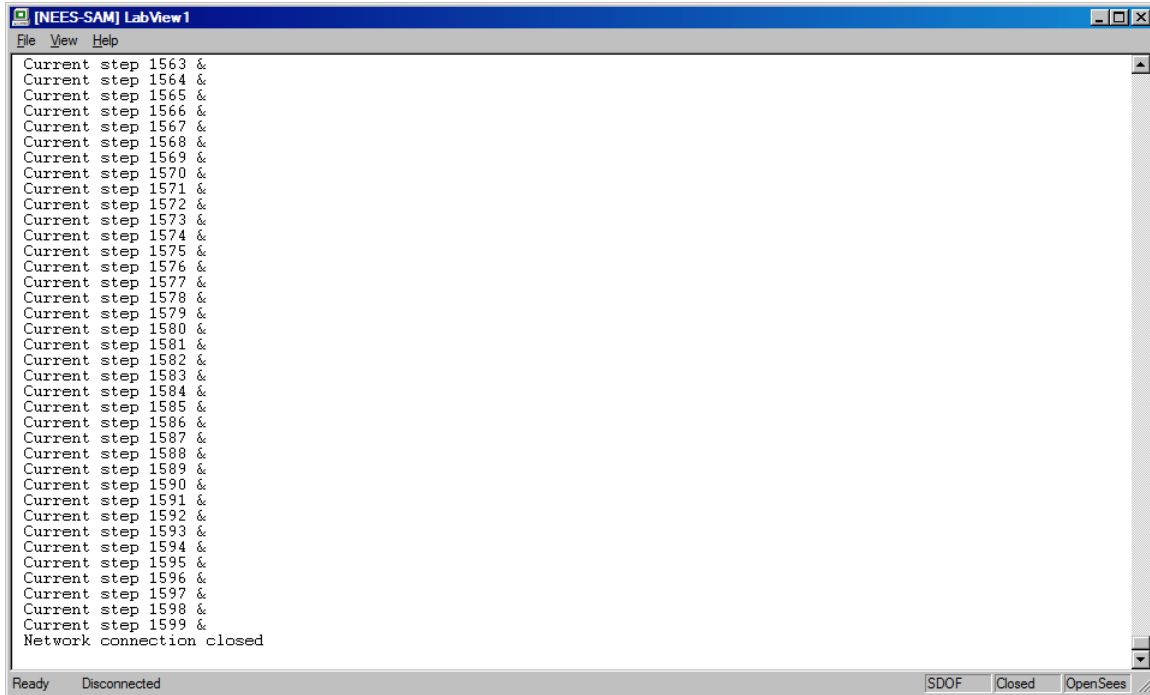

Figure 13: NEES-SAM Window for Local Test after Simulation.
- After OpenSees starts the simulation, the step numbers will also scroll down the NEES-SAM window until the simulation time step reaches 1599. Then the NEES-SAM window will print Network connection closed (Figure 13). This shows that the simulation has ended.